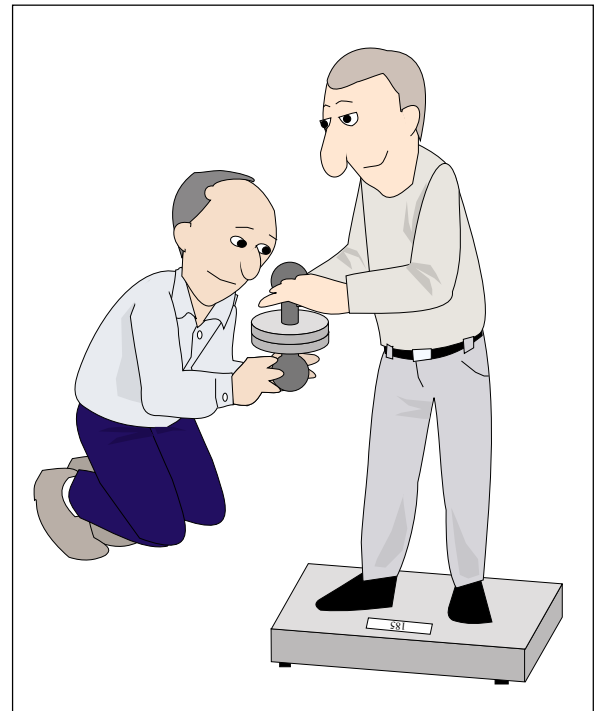

Figure 2.2
2. Have a light, strong student stand on a bathroom scale (Figure 2.2) holding one handle of the Magdeburg Plates.